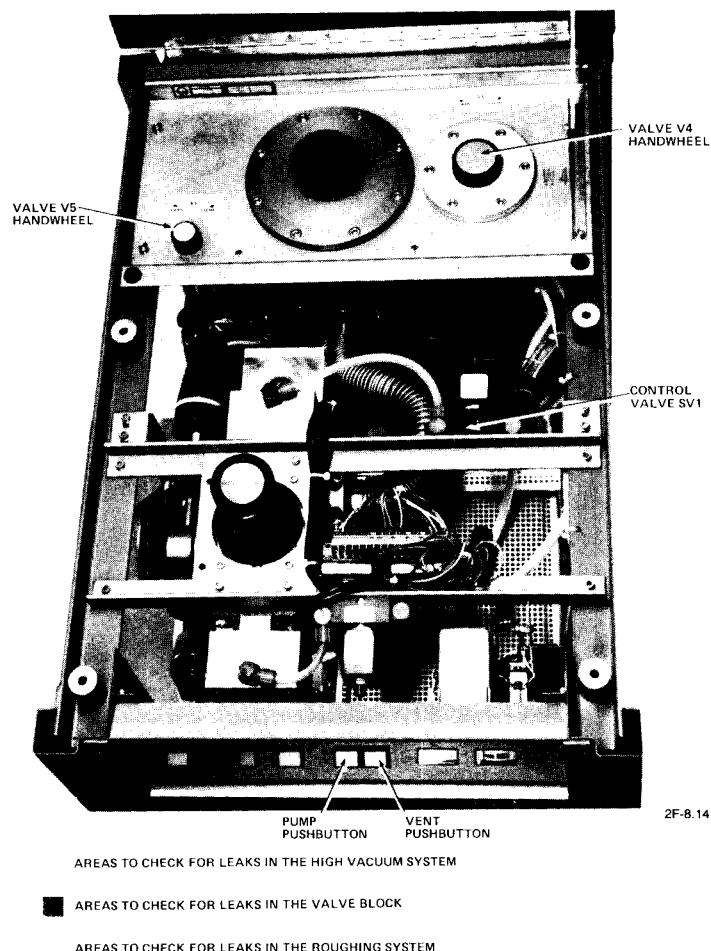

Figure 8-3A - Checking for Leaks in the Leak Detector, Top View
1. Tap the VENT pushbutton (see Figure 8-3A).
3. Close valve V4 (see Figure 8-3A).
1. Press and hold down the VENT pushbutton for 2 seconds (see Figure 8-3A).
4. Tap the VENT button (see Figure 8-3A).
Spray the flanges, high vacuum line (KF 40 metal bellows tubing), the drive side of the valve V2, and the fore-vacuum line sparing with helium (see the areas shown in yellow Figures 8-3A, 8-3B, and 8-3C).
4. Spray the PI, calibrated leak, and test port flanges sparingly with helium (see the areas outlined in red in Figures 8-3A and 8-3C).
Leak check the roughing system as follows (see Figure 8-3A and 8-3C).
3. Spray helium sparingly onto valve V1 and on the roughing line (see the areas outlined in blue in Figures 8-3A and 8-3C).